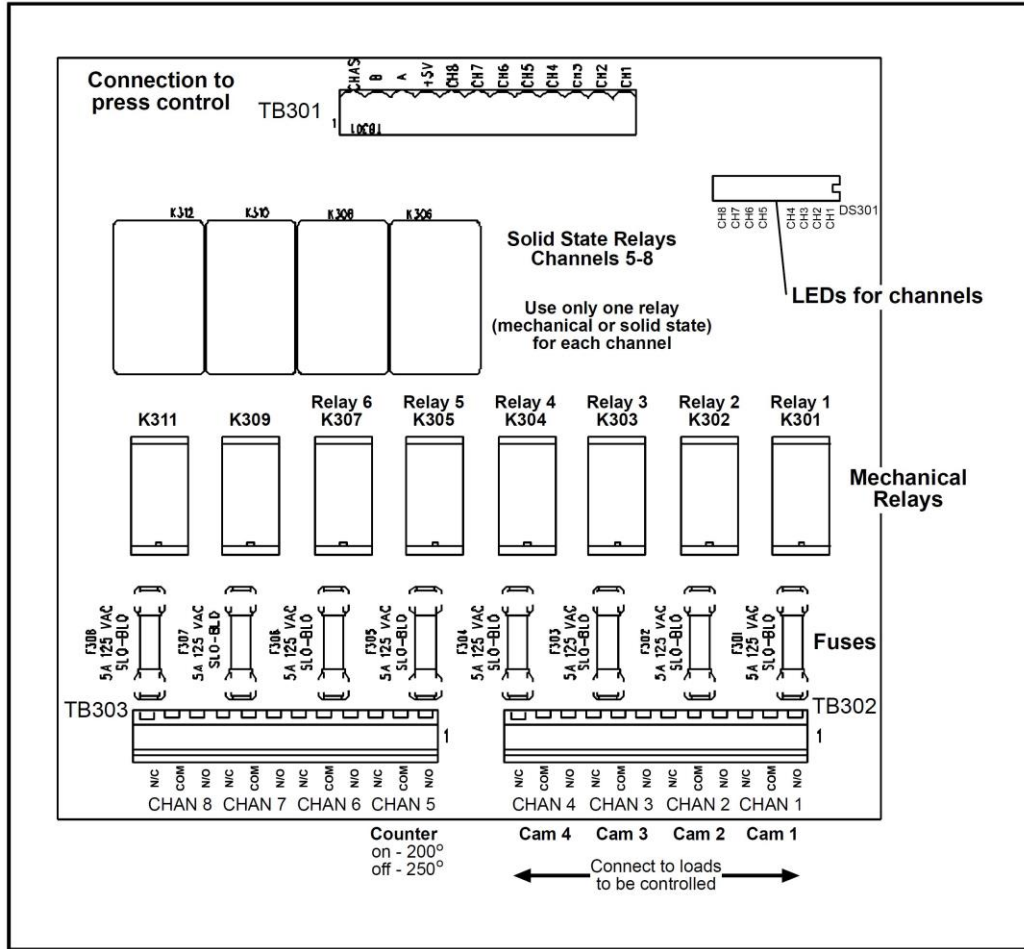

Figure 2-15. Cam Outputs Board
3. Select the relays to be used with each channel. Relays should already be plugged into the Cam Outputs board (see Figure 2-15, page 51), each relay labelled with its type (i.e., standard or solid state).